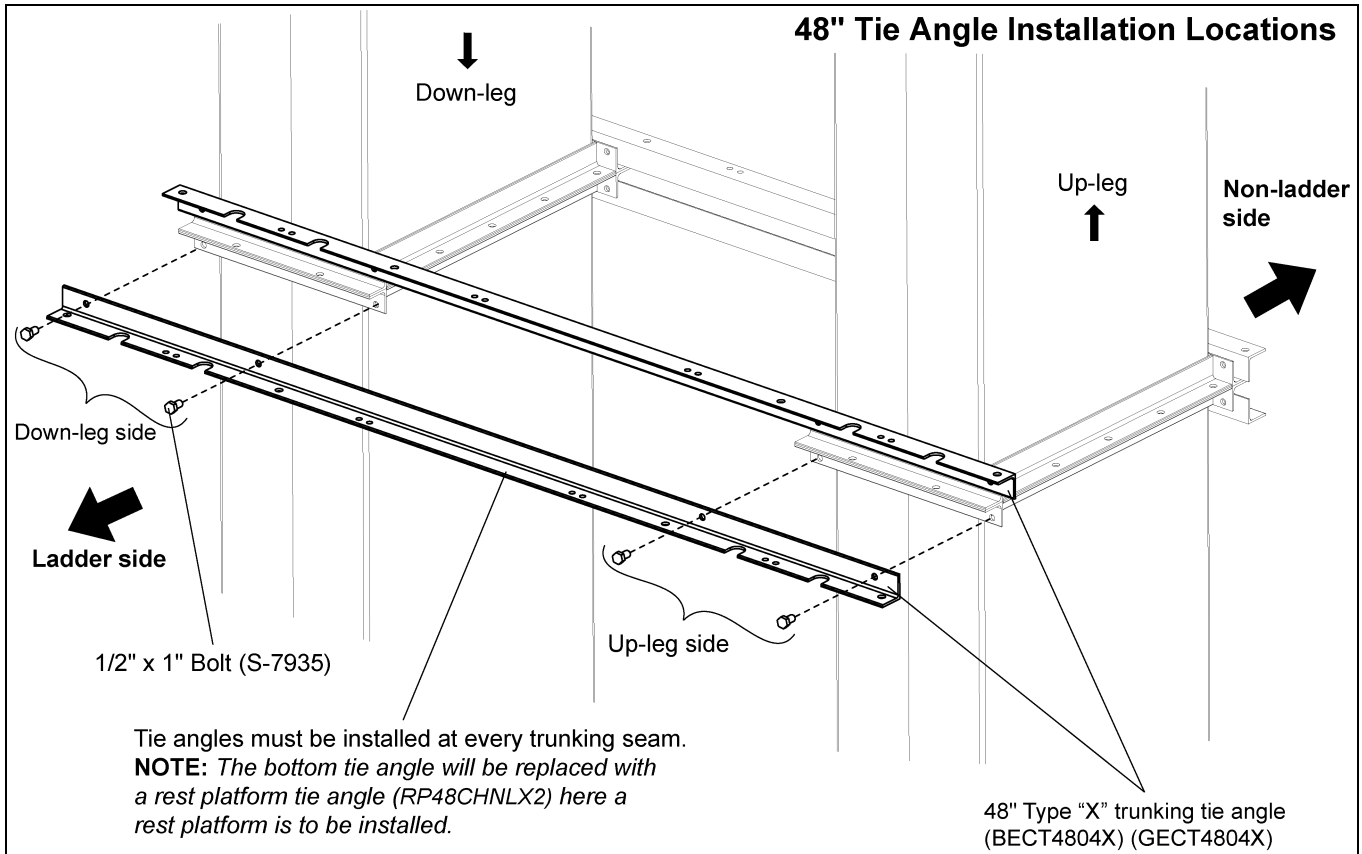
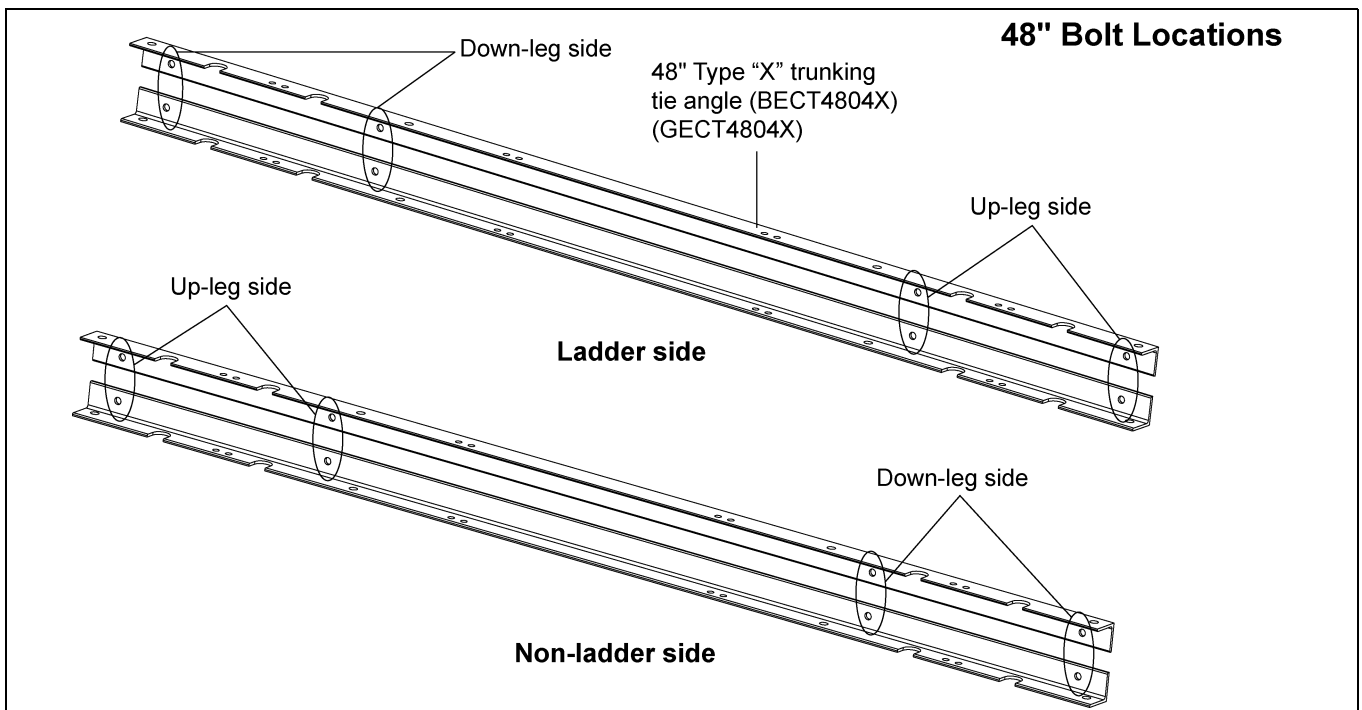

Figure 6L 48" Tie Angle Installation Locations
Figure 6M 48" Bucket Elevator Tie Angles to Trunking Bolt Locations
2. For 48" Tie Angles: Install two (2) tie angles (GECT4804X or BECT4804X) to both sides of the trunking seam using 1/2" x 1" HHCS bolts (S-7935) and 1/2" flange nuts (S-8506). (See Figure 6L and Figure 6M.)